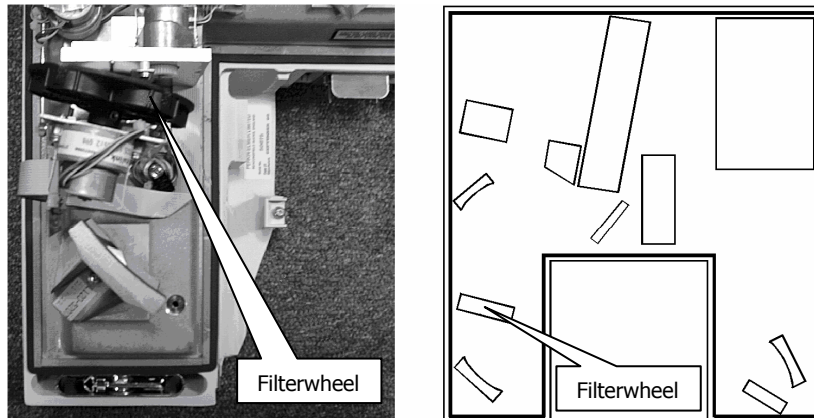

Figure 40 Filterwheel location
1. Open the main cover of the instrument as detailed on page 84 and identify the Filterwheel (Figure 40).